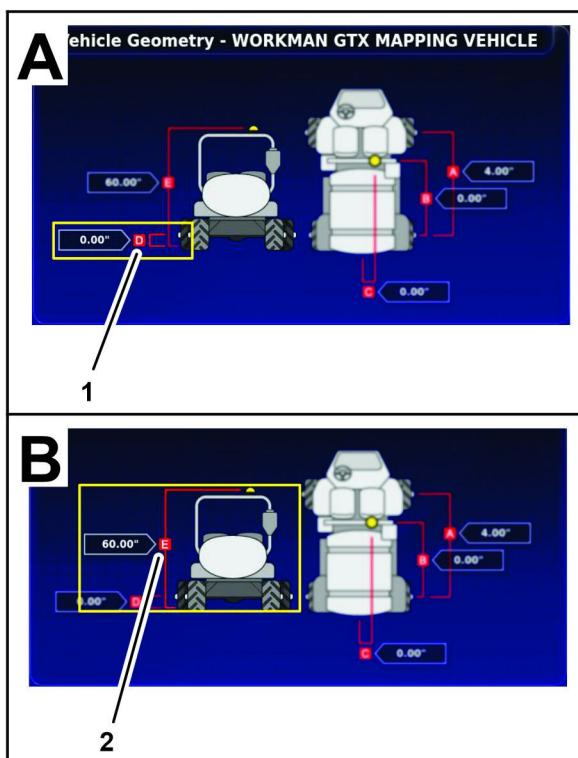

Figure 183
4. Measure the distance between the rear axle centerline and the ground (Figure 183), and record your measurement in the geometry form.
1. Rear axle centerline and ground measurement (D)
2. Satellite receiver and ground measurement (E)
- Measure the distance between the top of the satellite receiver and the ground (Figure 183), and record your measurement in the geometry form.